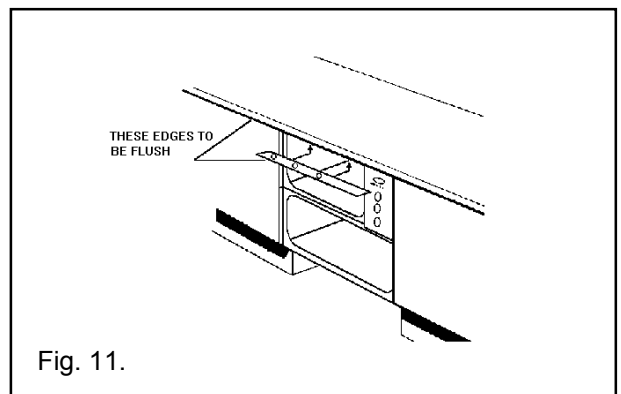

Fig. 11.
**Place the top trim with the cork washers uppermost flush with the edge of the worksurface (see Fig.11) and screw into the position using the screws supplied with the appliance.**